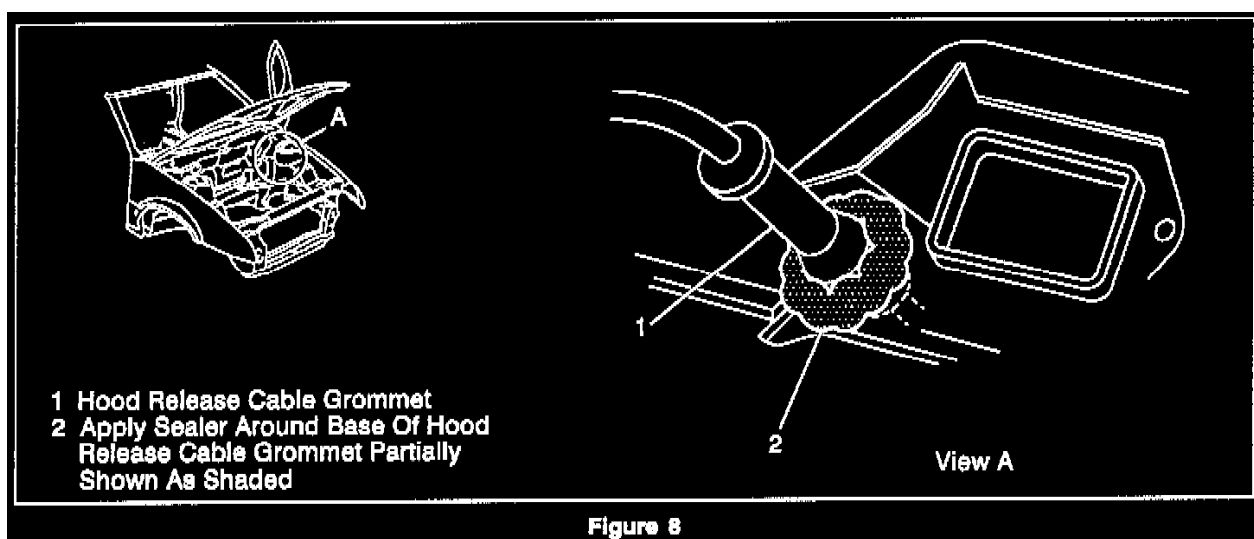

Figure 8
4. Hood release cable grommet not seated or distorted. Refer to Figure 8.	<ol style="list-style-type: none"> <li>1. Inspect for lumps in the seam sealer which could distort the hood release cable grommet. Refer to Step 5 if there are not any lumps in the seam sealer which could cause the hood release cable grommet to distort.</li> <li>2. Remove the hood release cable grommet.</li> <li>3. Remove seam sealer lumps.</li> <li>4. Install the hood release cable grommet.</li> <li>5. Assure the hood release cable grommet is seated.</li> <li>6. Apply clear sealer around entire perimeter of the hood release cable grommet.</li> <li>7. Allow sealer to dry.</li> <li>8. Direct water around the hood release grommet.</li> <li>9. Inspect from passenger compartment for leaks.</li> </ol>